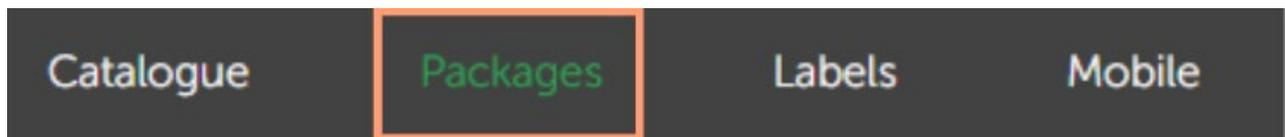

Figure 11: Packages link in the main navigation bar
1. Go to Packages in the main navigation bar – **see Figure 11.**